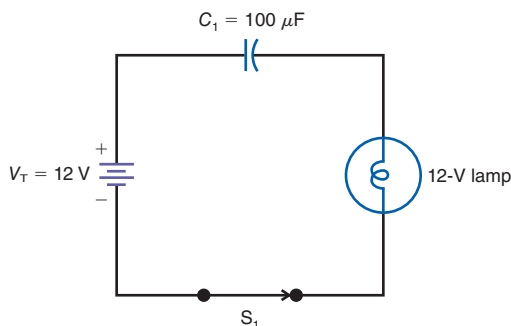

Figure 16-9
- 16.1 With the switch, S_1 , closed in Fig. 16-9, how much is
- 16.2 In Fig. 16-9 explain why the bulb will light for just an instant when S_1 is initially closed.